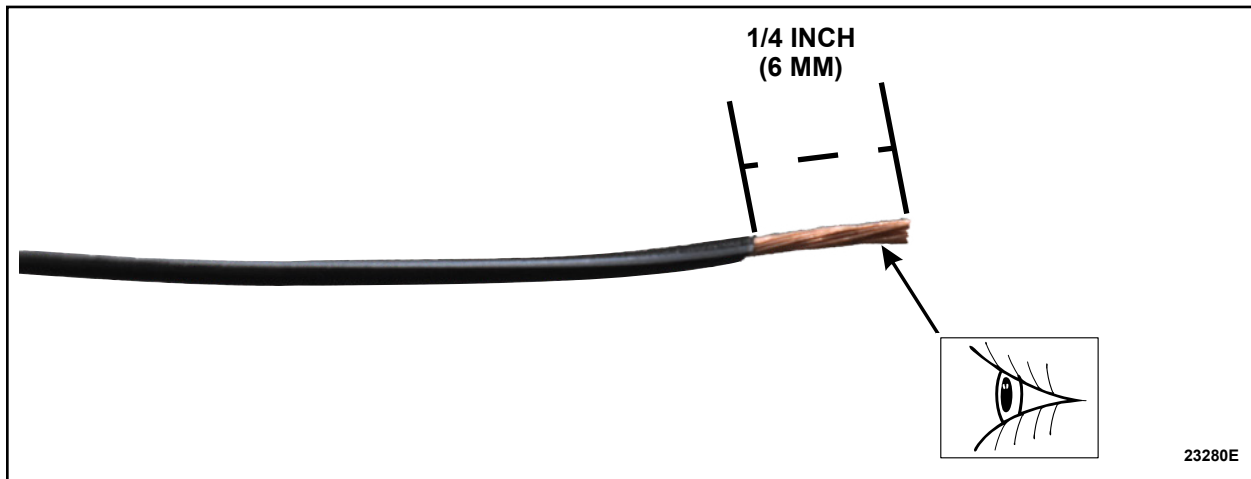

FIGURE 3
6. Strip the 1/4 inch (6mm) of wire insulation off the wires within the harness. See Figure 3. Inspect the stripped wires for any signs of corrosion or greening. Was any signs of corrosion or greening present?.